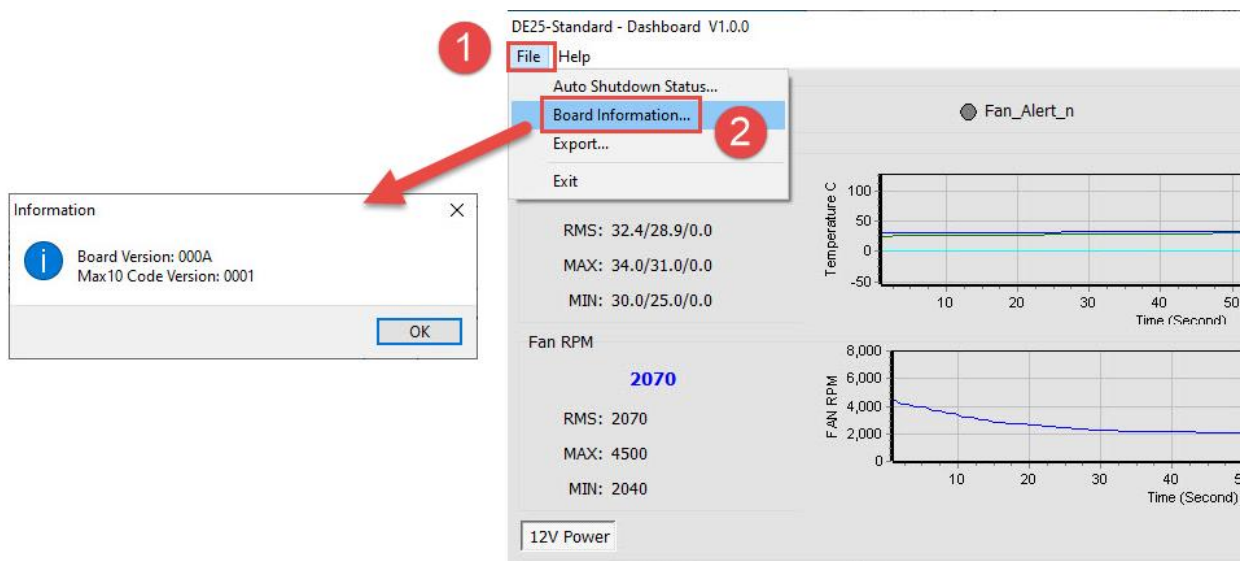

Figure 4-15 FPGA Status section
- **Board Information:** There is a File menu on the upper left of the Dashboard GUI program window. Click “Board Information...” to read the current software version and the DE25-Standard version, as shown in **Figure 4-15**. Note, you need to stop the system monitor (press the “Stop” button on the Dashboard GUI) before you can run the Board Information.